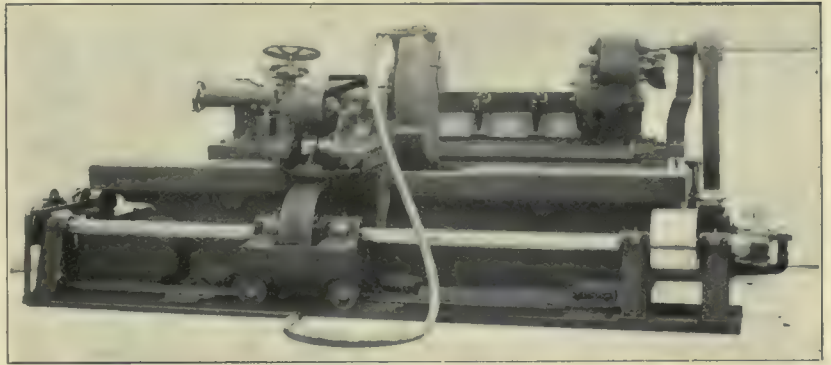

Fig. 5.—Rear View Landis Grinder.
With either form of drive the power is applied to the main shaft at the rear of the machine from which it is distributed and transmitted to all of the different working parts. The grinding wheel is driven from the large pulley seen in the rear view, Fig. 5, located at about the centre of the machine, which is mounted in a carriage rolling on the track shown extending from the base of the machine and travels with the wheel carriage as it is traversed.
Fig. 5 shows the mold as it has reached this position. The four plungers, C, are provided with springs which automatically equalize or adjust themselves to the irregularities of the bottom board on all four points, and as soon as mold rests upon the cross pieces, B, these plungers are locked in position by a single movement of the lever, D, which
- Fig. 5.—Mold at Dead Centre, Farwell Molding Machine.